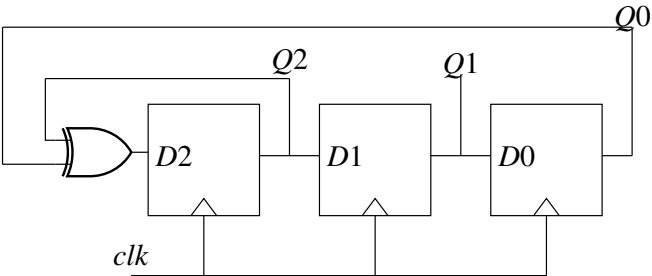

Fig. 5.5
- 5. The propagation delay of the exclusive-OR(XOR) gate in the circuit in Fig. 5.5 is 3ns. The propagation delay of all the flip-flops is assumed to be zero. The clock(Clk) frequency provided to the circuit is 500MHz.